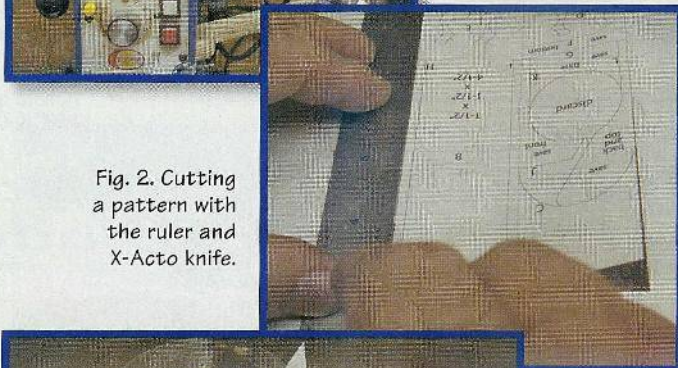

Fig. 2. Cutting a pattern with the ruler and X-Acto knife.
- X-Acto knife: used mostly with the ruler to cut a straight edge on a pattern I want glued flush to the edge of a piece of wood. Faster and more accurate than using the scissors (see Fig. 2).